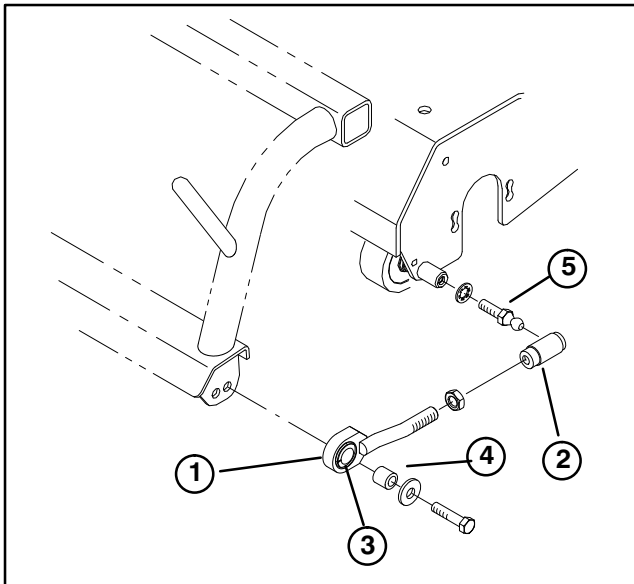

Figure 5
B. Assemble a jam nut and ball joint receiver onto each pull link assembly as shown in figure 5.
C. Mount a pull link assembly to each end of carrier frame with spacer, washer and capscrew (Fig. 5). Make sure nylon bushing is in pull link.
D. Install ball stud and lockwasher to each end of spiker (Fig. 5).
F. Slide sleeve back on each ball joint receiver and hook onto ball studs (Fig. 5).